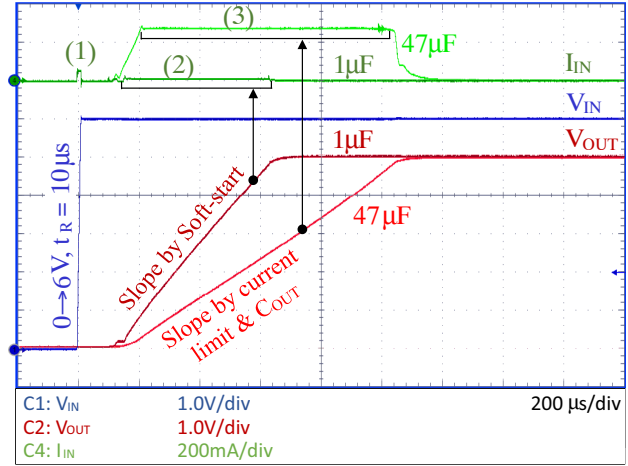

Figure 61.
Now back to LDO application. Here we can see two different inrush current spikes. The first one is caused by the LDO's input capacitor (C_{IN}) charging from zero to the input voltage level. It happens when the previous power block (for example DC/DC) starts providing the input voltage to the LDO circuit. The maximum level of this inrush current is given by Equation 16. It doesn't matter if LDO is enabled or disabled as this inrush current spike is related only to C_{IN} and it can't be suppressed by the LDO, it is matter of previous power block. This inrush current spike is shown at Figure 61, point (1).